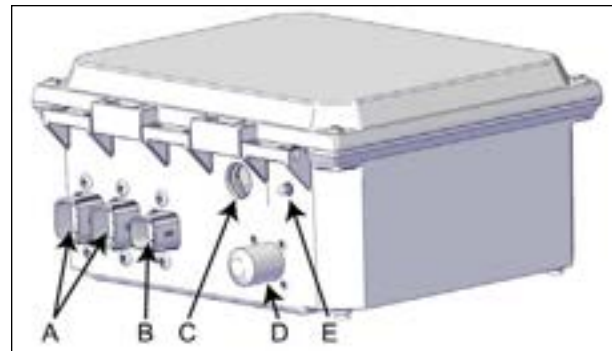

FIGURE 93: CONTROL BOX
- Start by connecting the two motor jack harnesses to the AC control box, see Figure 93. Use the wires shown in Figure 7 in the Jack installation section. Put the exceeding wires as close to the spa as possible to hide and protect the wires.
- Unpack the key switch and plug the harness into the AC control box, see item B in Figure 93.